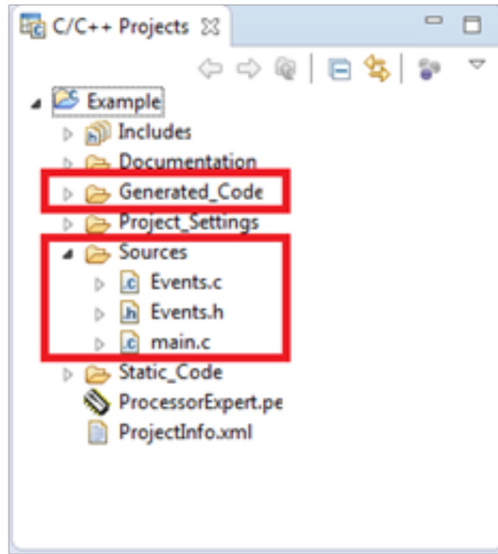

Figure 29. Source code locations
- The driver code for the LVHBridge device is generated into the **Generated\_Code** folder in the **Project** panel. The component only generates the driver code. It does not generate application code. Figure 29 shows the locations of the generated driver source and the application code.